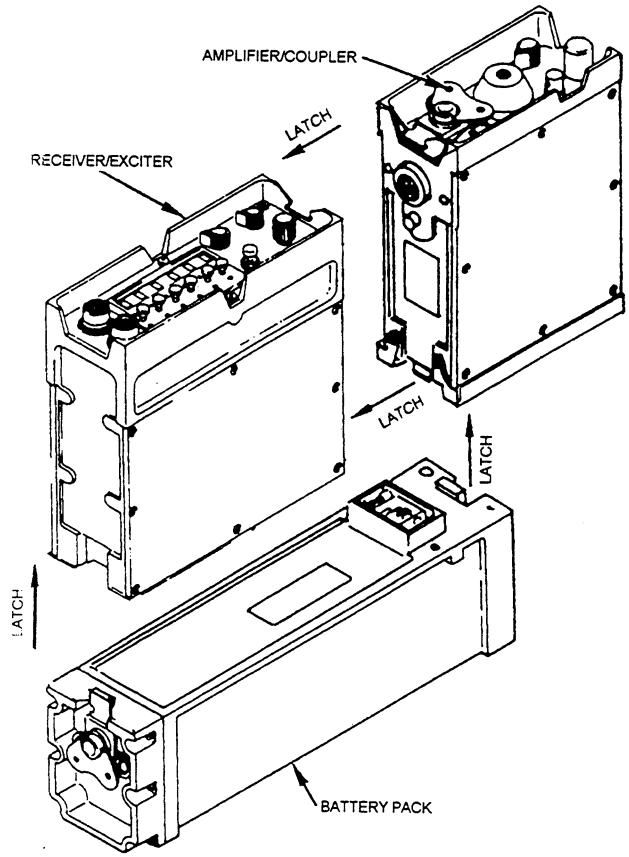

Figure 11-7.—Radio set installation and setup.
**RADIO SET.**— The AN/PRC-104 radio set consists of three units: (fig. 11-7) low-power receiver-transmitter RT-1209/URC (receiver/exciter), 20-watt radio frequency amplifier AM-6874/PRC-104 (amplifier/coupler), and battery case CY-7541/PRC-104 (battery pack). Quick-disconnect latches secure the receiver/exciter to the amplifier/coupler, and each is latched to one end of the battery pack. When latched together, the receiver/exciter is electrically interconnected with the amplifier/coupler through a built-in connector; the battery pack power is connected to the amplifier/coupler. All of the operator controls and connections are located on the receiver/exciter front panel, except for the antenna select switch and antenna connections located on the amplifier/coupler unit. They are constructed on a die-cast aluminum housing; the battery pack housing is tough plastic. Watertight seals for the covers and panels make the three units watertight, submersible, and capable of rough handling and abuse in any field environment. The unit circuits are modular for ease of repair. The total weight of the assembled AN/PRC-104 (three units with battery) is 14 pounds, making it a lightweight and easily carried package.